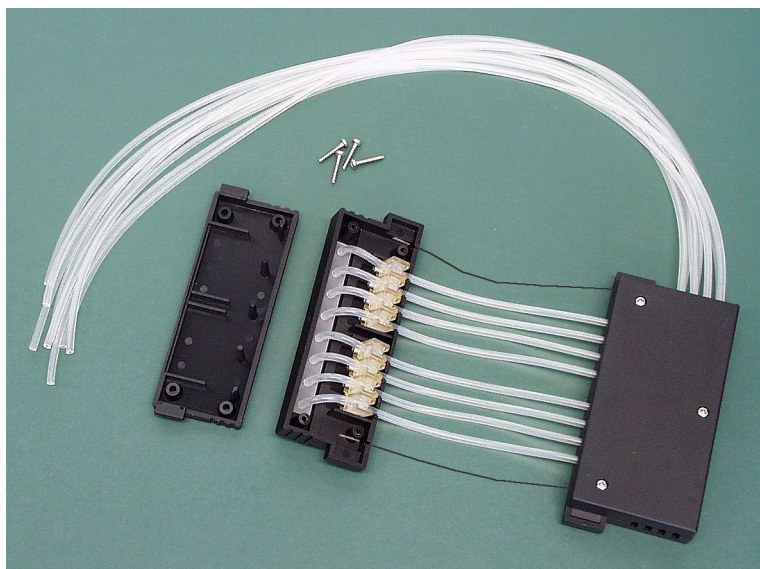

Fig. 7.11 Removing the cover plate of the lower part of the dispensing cassette
2. Unfasten the four cover retaining screws of the lower part of the dispensing cassette (*Fig. 7.11*).